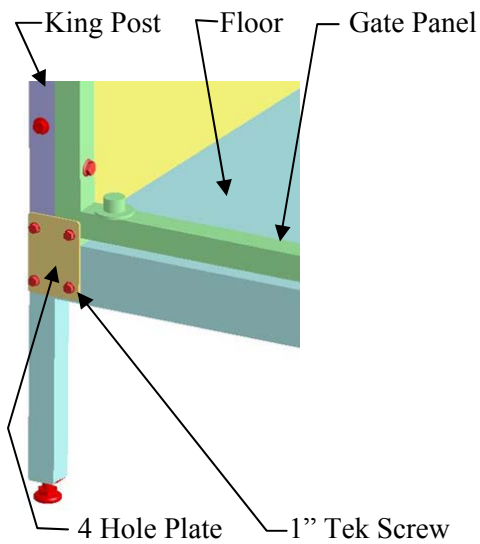
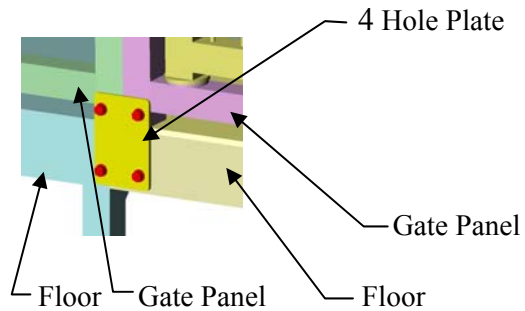

Figure 27
Figure 28
1. After all the Gate Panels are installed, locate the 4 hole Plate. Attach the first 4 hole Plate over the King Post and the first Gate Panel frame tube with (4) 1" Tek Screws as shown in **(Figure 27)**. The rest of the Plates will mount where each Gate Panel meets with another Gate Panel **(Figure 28)**.